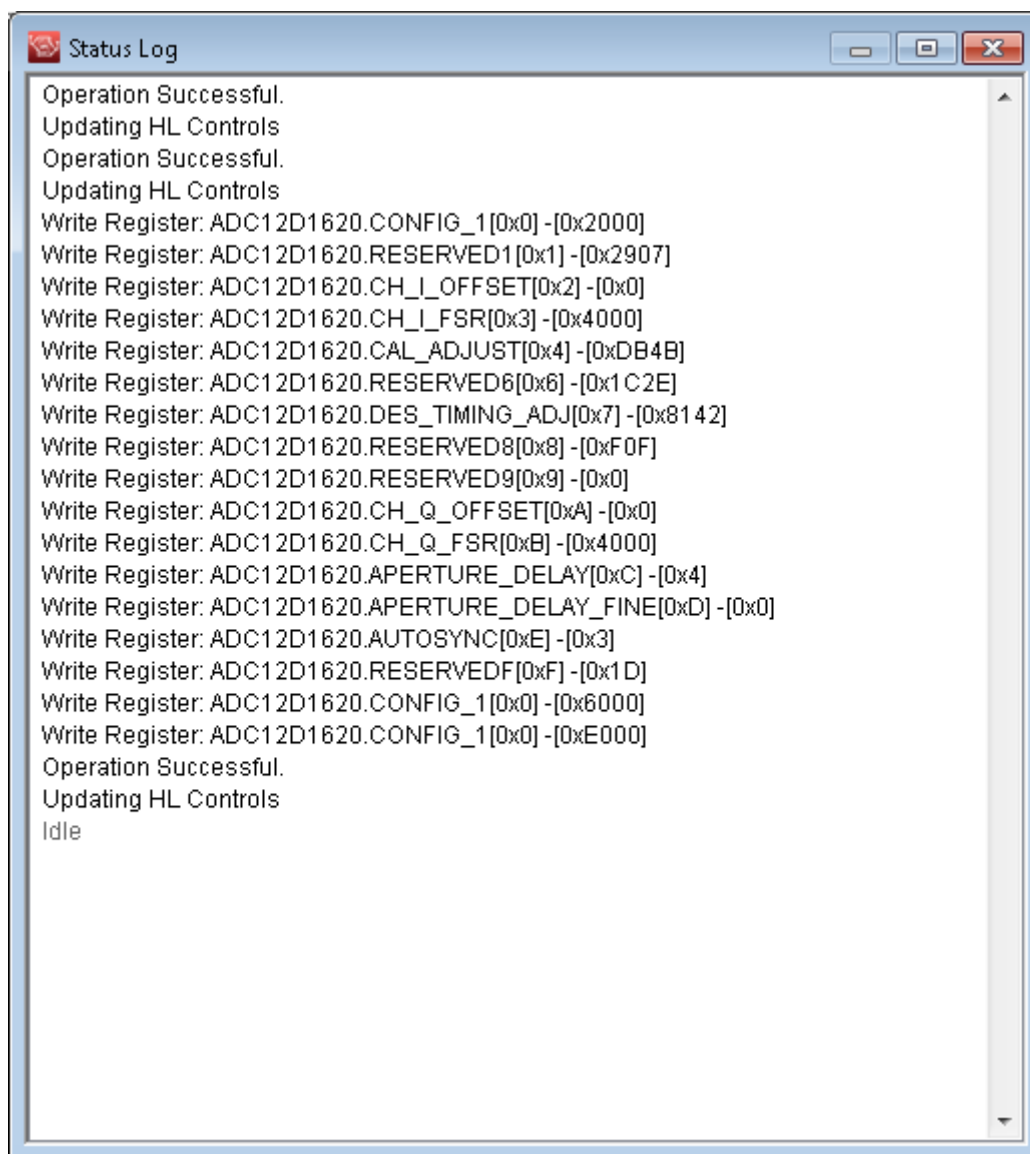

Figure 3-2. Configuration GUI: Status Log Panel
3. Right-clicking within the *Status Log* panel shows the available commands. A command sequence can be saved for later usage or study by selecting the desired commands, and then right clicking and choosing *Save Selected*. Figure 3-2 shows the status log panel.